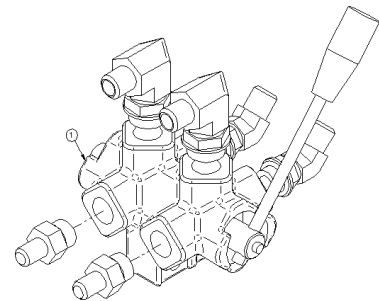

Figure 34
- 3- Make sure that the « engine selector » (see Figure 15 and Figure 34) is in the « FRSM-20K » position.
- 3- Make sure that the « Valve Selector » (see Figure 28 & Figure 34) is in the « Emergency » position, thus selecting the emergency engine.
- 5- Place the engine selector lever in the « Emergency » position (see Figure 15 and Figure 34).
\*The old lifting unit models may be equipped with an « Engine Selector » on the control box (see Figure 28). In this case ensure that the « Engine Selector » is in the « FRSM 20K » position and the « Valve Selector » (see Figure 15 and Figure 34) is in the « Emergency » position.